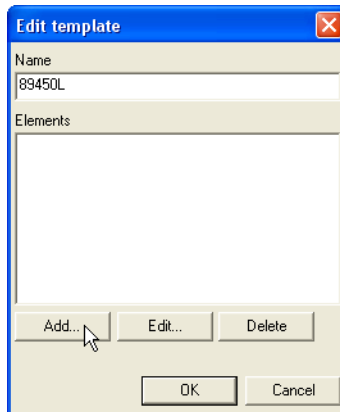

Figure 6-28. Enter Template Name and Add Element
2. Type a name for the new template on the *Edit template* dialog box and click **Add** to add elements to the new template (Figure 6-28 on page 6-26).